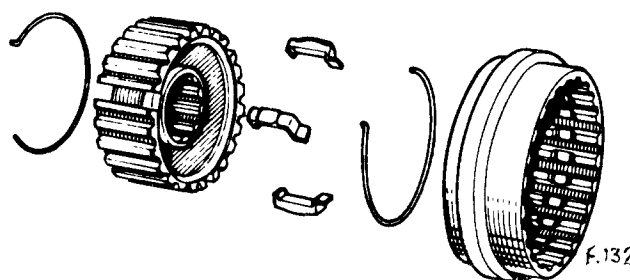

Fig. 70.
1. Using Fig. 70. as a reference, fit on to the hub: